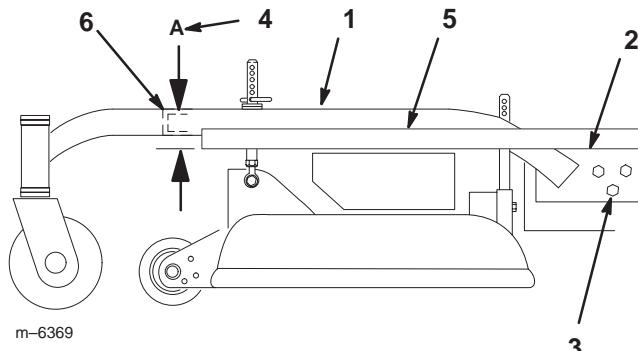

Figure 66
3. Place a long straight edge on top of the engine deck as shown in figure 66.
4. At the carrier frame cross tube, measure location **A** height (Fig. 66). This measurement must be 1-5/16 inch (33 mm), plus or minus a 1/4 inch (6 mm).
6. Loosen the carrier frame mounting bolts on both sides of the machine (Fig. 66).
7. Align the carrier frame and engine deck to match 1-5/16 inch (33 mm), plus or minus a 1/4 inch (6 mm) at location **A** (Fig. 66).